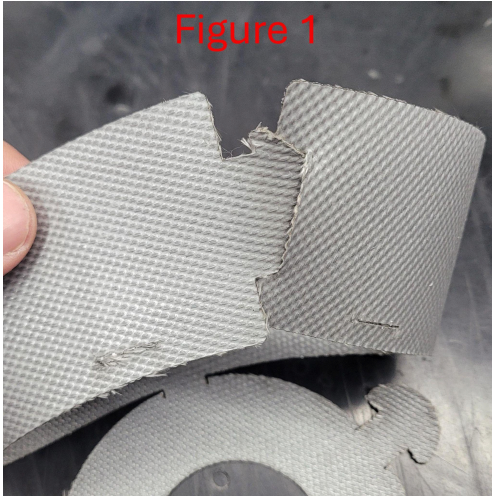
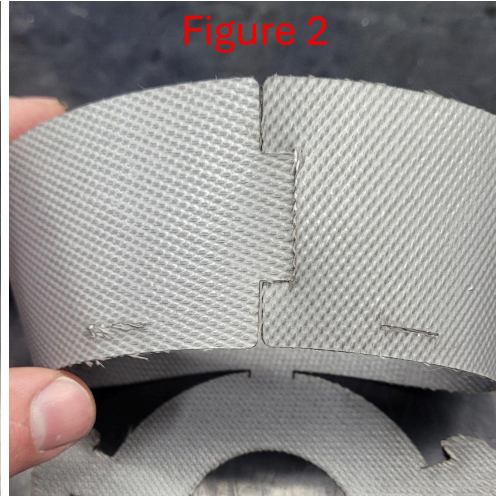

Figure 1
Figure 2
1. Fold the arc part of the shield around and insert one side of the tab into the slot on the other side of the arc (Figure 1). Pull tab through the slot (Figure 2).